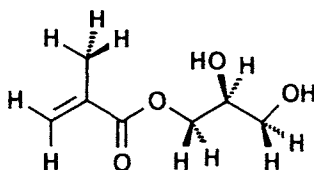
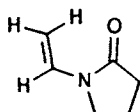
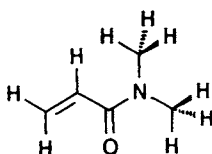
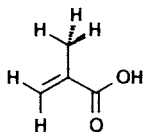

Figure 14.6.5 ► The molecular structure of the hydrophilic nonionic monomer 2,3-dihydroxypropylmethacrylate.
Figure 14.6.6 ► The molecular structure of the hydrophilic nonionic monomer *N*-vinyl-2-pyrrolidinone (NVP).
Figure 14.6.7 ► The molecular structure of the hydrophilic nonionic monomer *N,N*-dimethylacrylamide (DMA).
Figure 14.6.8 ► The molecular structure of the monomer methacrylic acid (MAA).
cally 38% by weight).^[2] Highly hydrophilic nonionic monomers used in hydrogel lenses include glycerol methacrylate (GM) or 2,3-dihydroxypropylmethacrylate (Fig. 14.6.5), *N*-vinyl-2-pyrrolidinone (NVP) (Fig. 14.6.6), and *N,N*-dimethylacrylamide (DMA) (Fig. 14.6.7). The Accuvue lens currently manufactured by Johnson and Johnson is an example of a hydrogel polymer with an ionizable monomer (hence enhanced water absorption). Cross-linking HEMA (Fig. 14.6.4) and methacrylic acid (MAA) (Fig. 14.6.8) leads to a water content of 58%. Other combinations of polymers (such as methyl methacrylate and polyvinyl pyrrolidone) lead to soft hydrophilic lens materials with water contents as high as 70%.^[3,4]